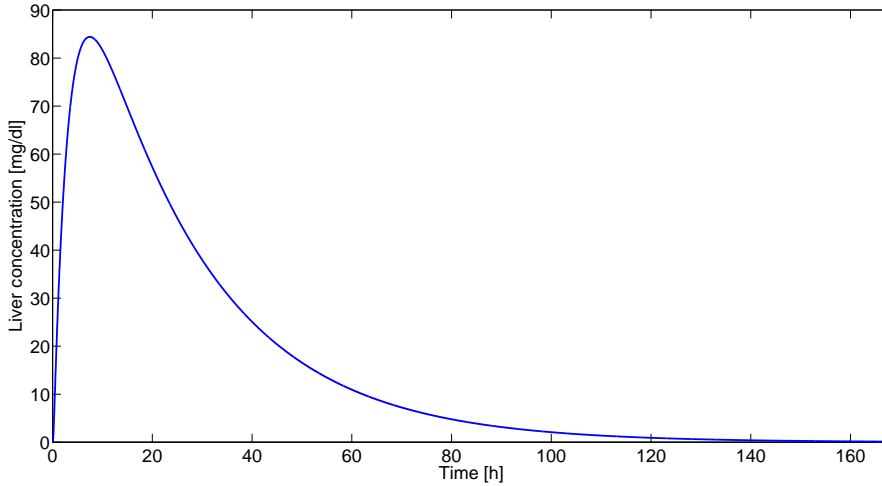

Figure 5.1 Liver concentration at 500 mg dose
- c. Simulation of 500mg dose is given in Fig. 5.1 below. For code, go to the solution of the last subproblem.